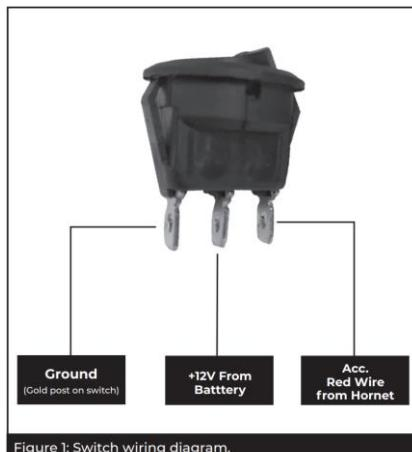

Figure 1: Switch wiring diagram.
1. Connect the **RED** positive wire to 12-36VDC, through a switch, as shown in the switch wiring diagram (Figure 1) and the **BLACK** negative wire to ground.